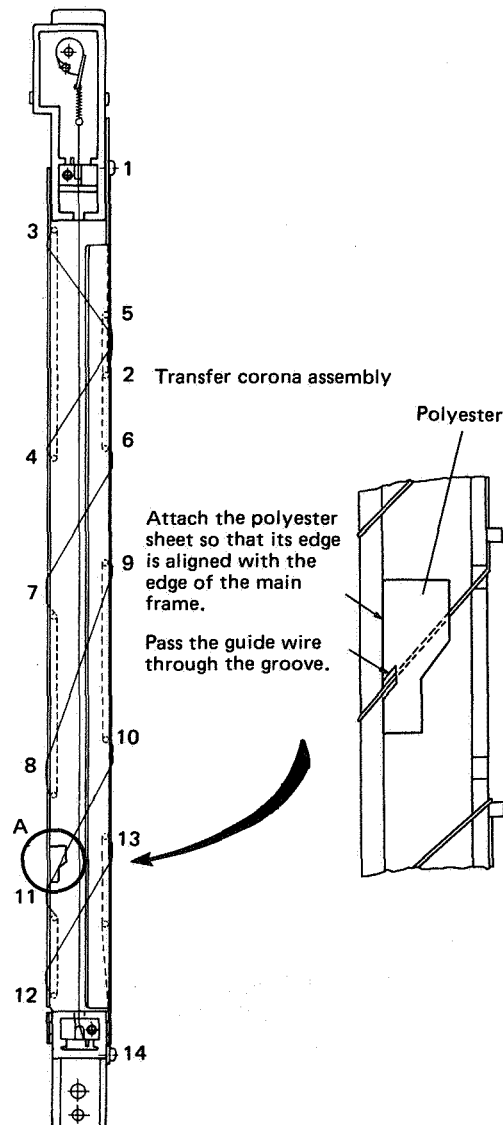

Figure 4-71
- (1) Remove the polyester sheet from area A in the figure at the right, then unreel the guide wire from the reel (0.148 mm ϕ) and cut off about 84 cm.
- (2) Wrap one end of the guide wire around screw 1 two to three times as shown in Fig. 4-71, and tighten the screw.
- (3) Wrap the wire around the corona assembly as shown in Fig. 4-71.
- (4) Wrap the end of the grid wire around screw 14 two to three times as shown in Fig. 4-71. Tighten the screw and clip off the extra wire.
- (5) Attach the polyester sheet to area A as shown in the figure at the right.